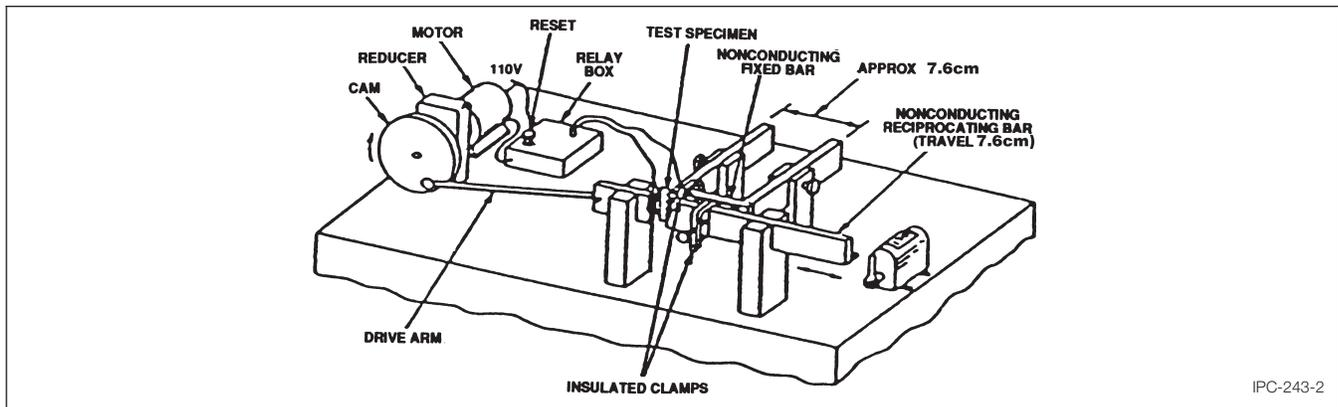

Figure 2 Typical Flexural Endurance Test Fixture Equipment
4 Apparatus Flexural Endurance Tester (see Figure 2) or equivalent.
5.3 Using the flexure test equipment as seen in Figure 2, mount the specimen so that the inside diameter of the loop is
6 Note Master set of drawings of a similar test fixture as seen in Figure 2 is available from the IPC office. This fixture is not commercially available.